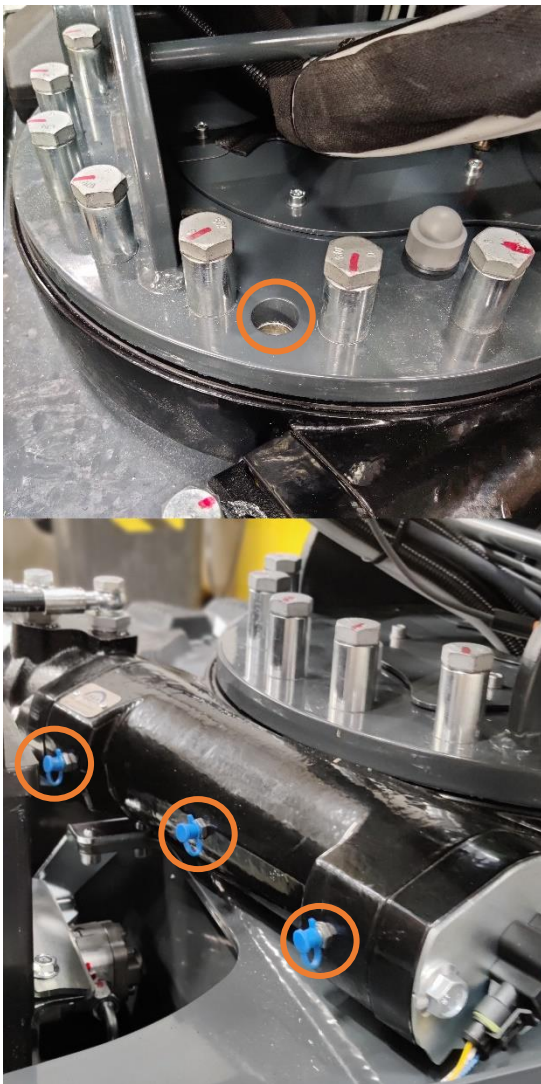
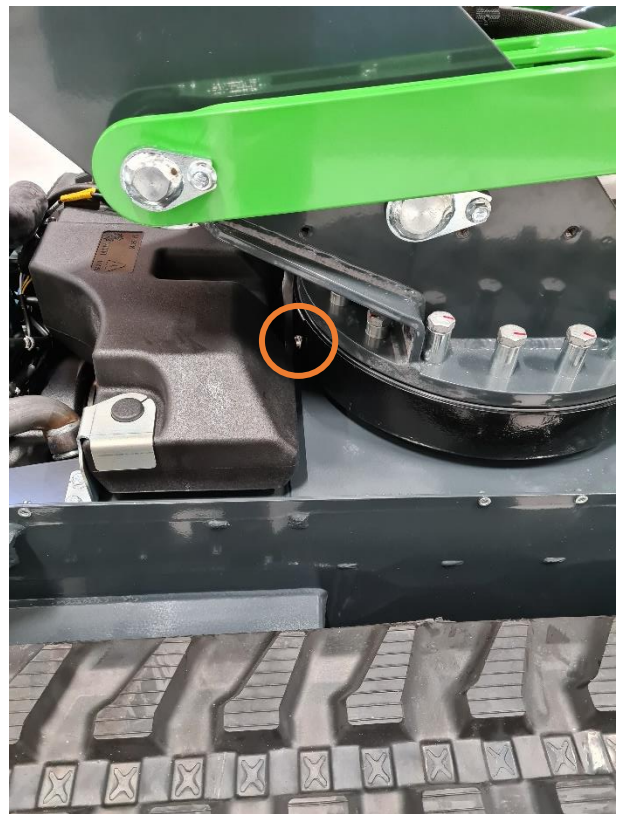

Figure 16. Slew ring greasing points
Figure 17. Slew ring greasing pressure relief screw
The slew ring of the access platform must be greased monthly. It is important to notice that the slew ring has four (4) separate greasing points (figure 16) which all must be greased individually. There is a pressure relief screw (figure 17) at the opposite side of the worm gear of the slew ring which must be opened when greasing the slew ring to avoid the seal from coming off. A coupling and a tube can be mounted as an option instead of this screw. In this case it does not need to be opened. There are 3 greasing points next to the battery on the side of the slew ring which are connected to the worm gear and its bearings. One (1) greasing point which is on the top of the slew ring (hole through the pedestal) is connected to the rings ball bearings. When applying grease to this greasing point, it is important to apply grease all around the slew ring. To do this, apply grease and rotate approximately 20° after which apply grease again. Continue until the slew ring is completely greased (360°).